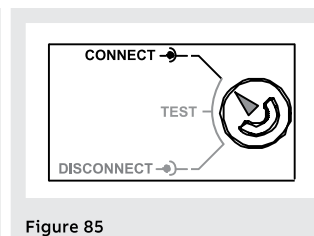

Figure 85
- circuit-breaker in CONNECT position (see Figure 85)